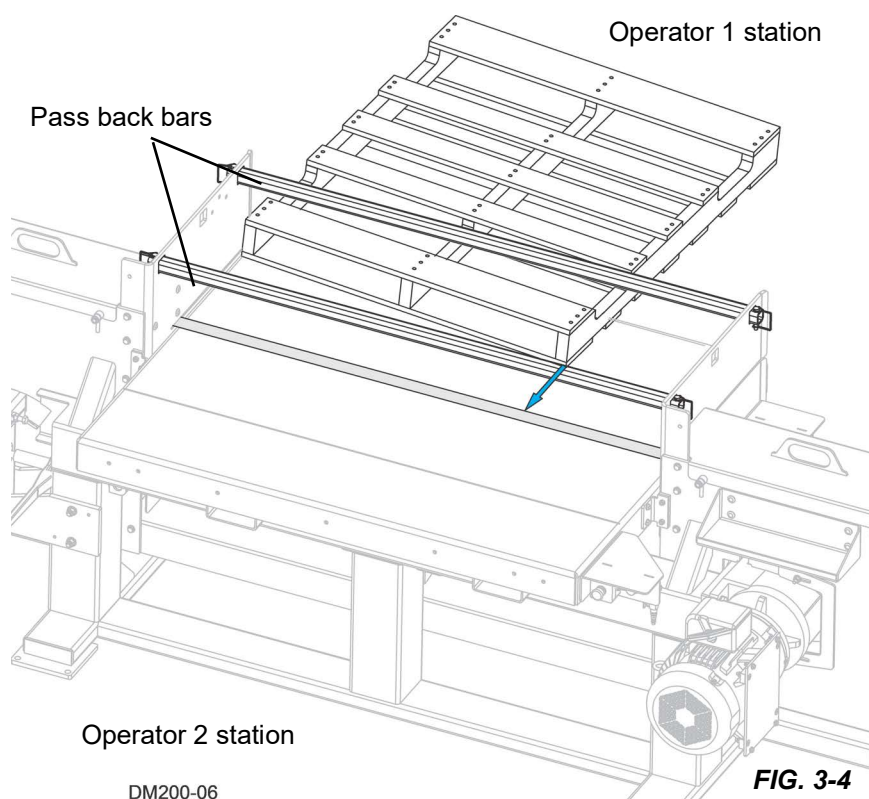

FIG. 3-4
9. **Operator 1:** With the pallet at a slight angle to the blade, push the pallet half way through the blade.(See Figure 3-4.)